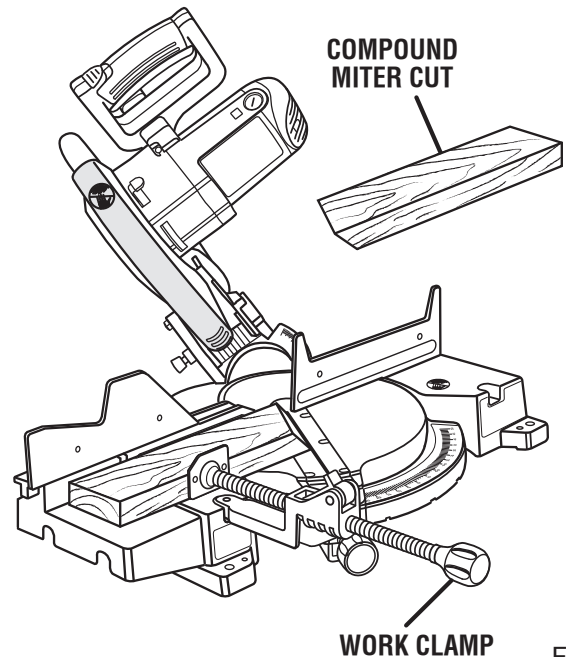

Fig. 30
- Grasp the stock firmly with one hand and secure it against the fence. Use the work clamp or a C-clamp to secure the workpiece when possible. See Figure 30.
- Grasp the stock firmly with one hand and secure it against the fence. Use the work clamp or a C-clamp to secure the workpiece when possible. *See Figure 30.*
- Slowly lower the blade into and through the workpiece. *See Figures 30 - 31.*